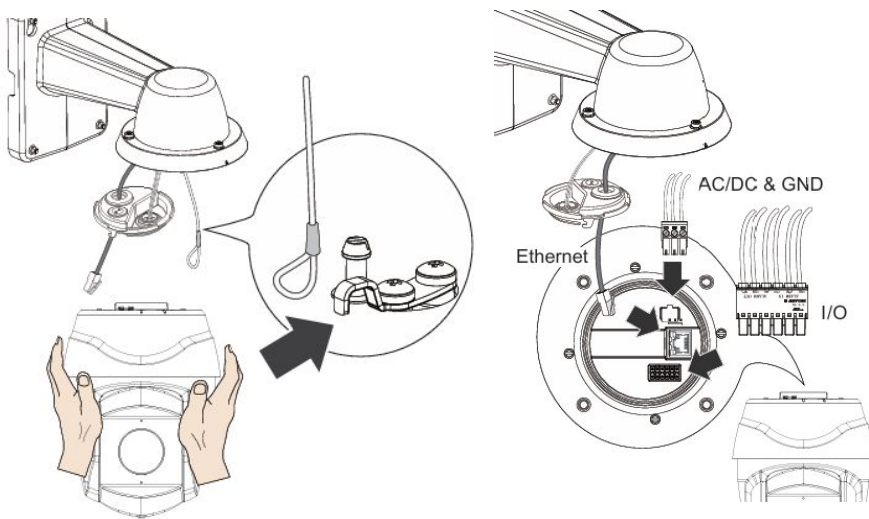

Figure 1-5
Step 4 Latch camera safety cable, then make your connections. See Figure 1-5.